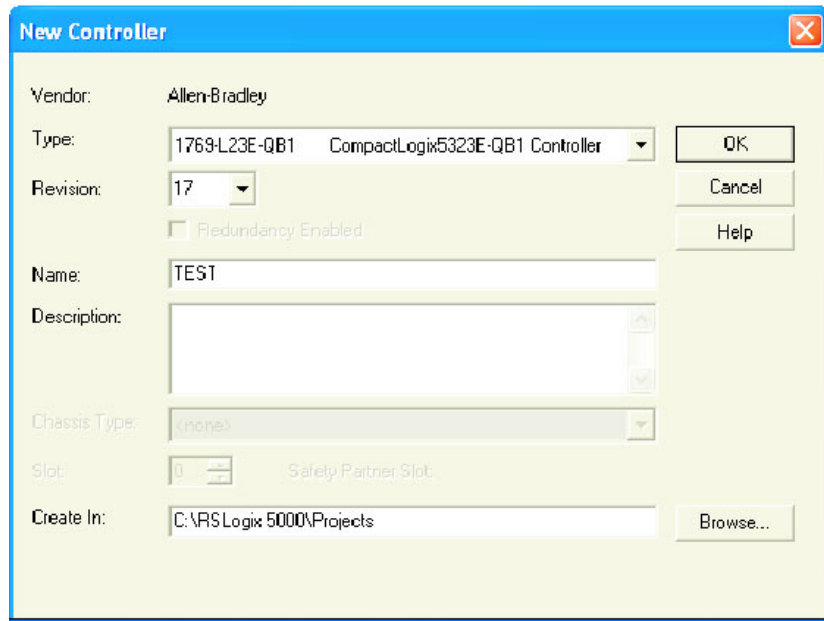

Figure 81 New Controller
1. In the 'File' menu select 'New', or click on the 'New Tool' icon. The 'New Controller' window opens (Figure 81).